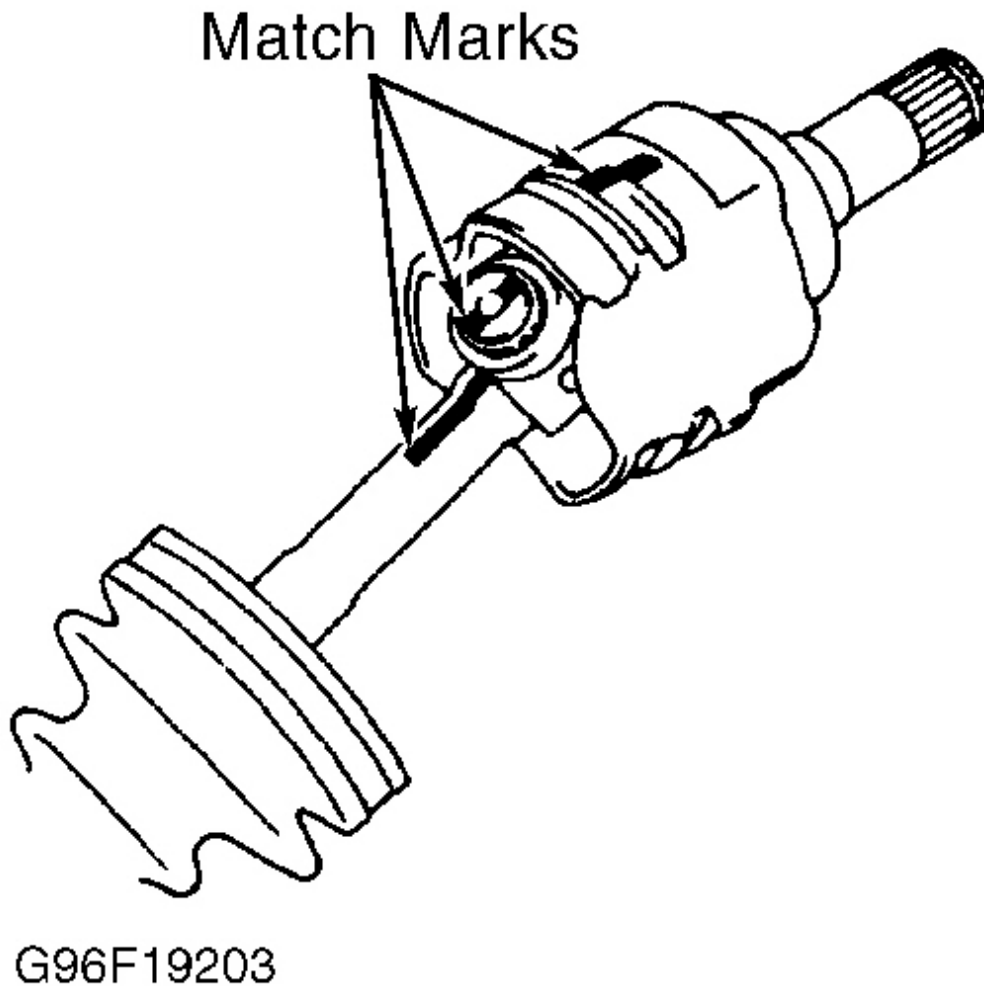

Fig. 6: Match-Marking Components For Reassembly Reference (Typical)
1. Remove boot clamps and slide boots from joints. Paint reference marks on outer race and axle shaft for reassembly reference. See **Fig. 6**.
1. Remove boot clamps, and slide boots from joints. Paint reference marks on outer race and axle shaft for reassembly reference. See **Fig. 6** .